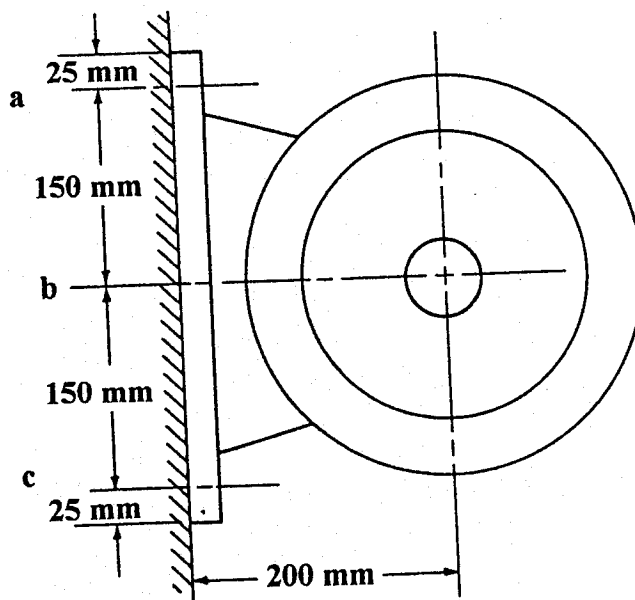

Figure 6
6. A dc motor delivers a torque of 400 Nm at its lowest speed. The motor is fastened to a vertical wall as shown in Figure 6. In its base are holes for six identical bolts, two in each of three rows, at locations a, b and c in Figure 6. The gravity force due to the motor is 2000 N and its centre of gravity is 200 mm from the wall.